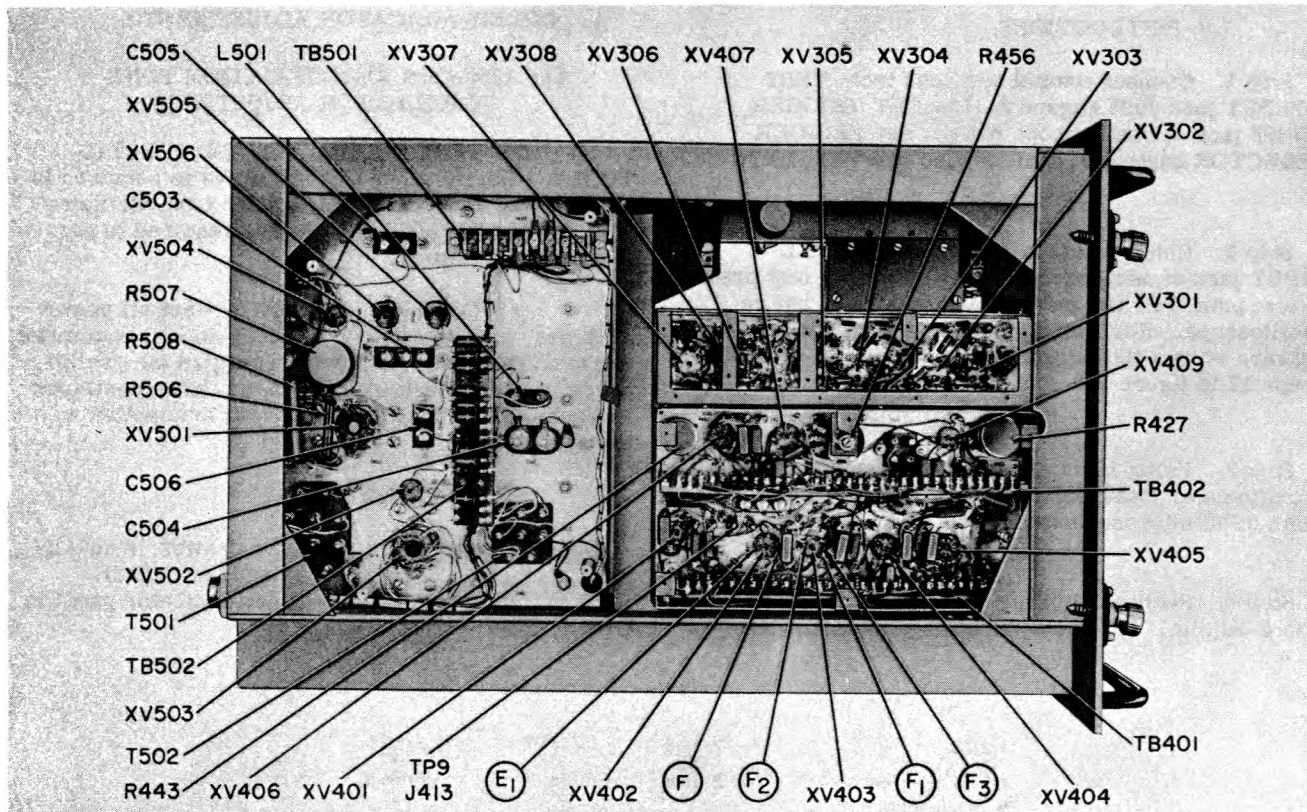

Figure 6-5. Radio Receiver R-824/URN, Left Side View
Step 2. Connect test prod to VERT SIGNAL INPUT jack of oscilloscope panel. Connect test prod to test point TP9 (figure 6-5) and lock in signal on oscilloscope. Horizontal sweep speed should be between 50 and 100 microseconds per inch. Wave-shape 17 in figure 5-9 should be obtained.